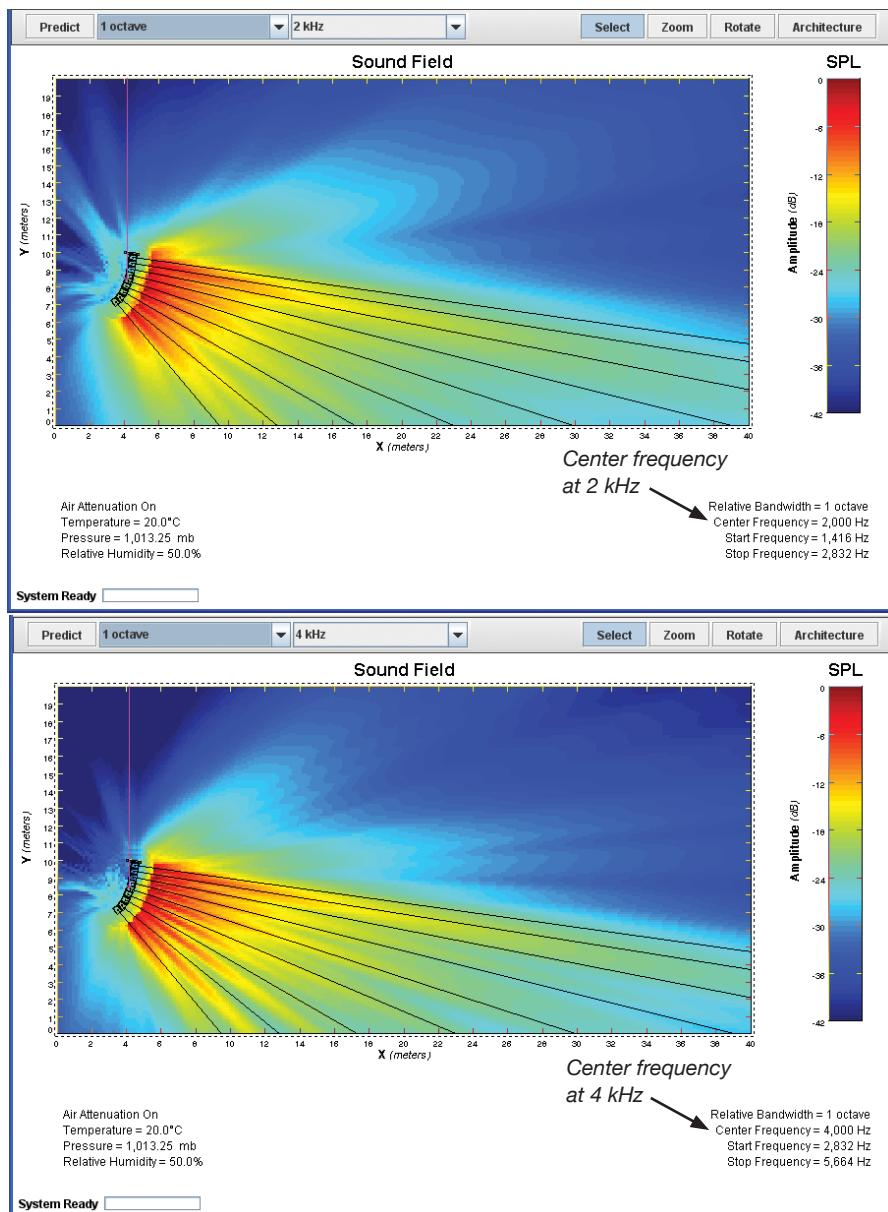

Figure 51. Sample predictions of an array system with nine elements at 2 kHz and 4 kHz
e.g., 1/1 octave at 2 kHz and then predict at 4 kHz (Figure 51).